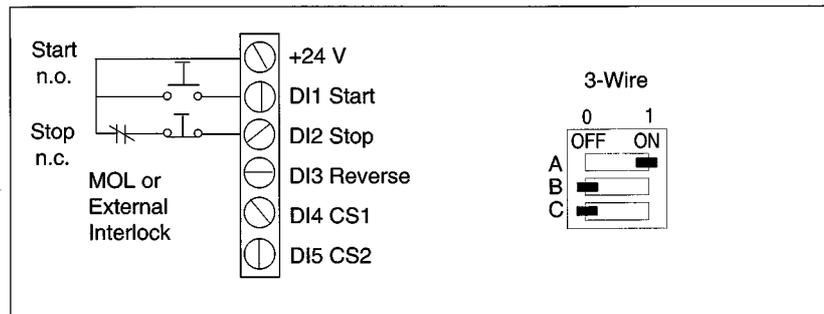

Figure 4-4. 3-Wire recommended cabling and switch S1 selection.
- 3-wire (refer to figure 4-4 page 20 and tables 4-3 to 4-4 page 20)